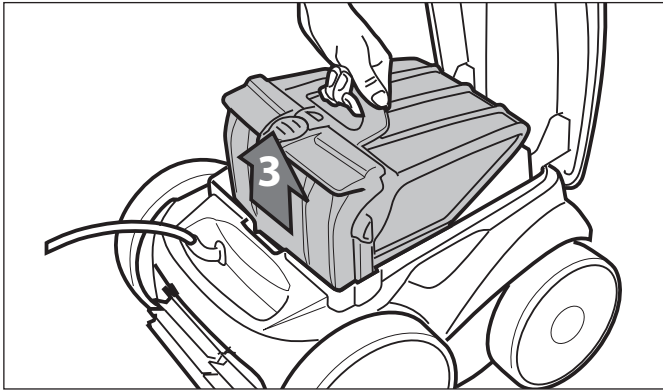

Figure 20. Remove Filter Canister Assembly
- Remove the filter canister assembly from the body (3), as shown in Figure 20.